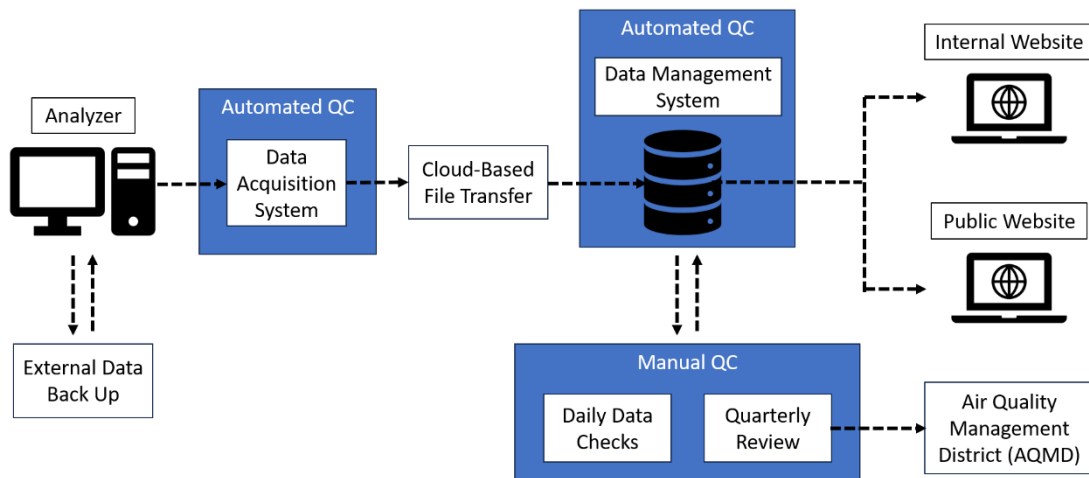

Figure 1. Data flow and QC schematic.
Data are reviewed daily by air quality data analysts to assess system operations, confirm the automated data flagging is correct, and ensure any corrections to data flagging are propagated to the public website immediately. Extended analyses are performed every calendar quarter and reviewed by the project Quality Assurance (QA) Manager. **Figure 1** illustrates the general data flow and QC schematic.
Data for the fenceline monitoring network appears on both public and internal websites (Figure 1). The internal website allows for detailed QC and flagging of the data, which are checked daily and finalized quarterly as outlined in Section D.2 of the QAPP. The following text describes how to perform daily and quarterly data verification and validation.